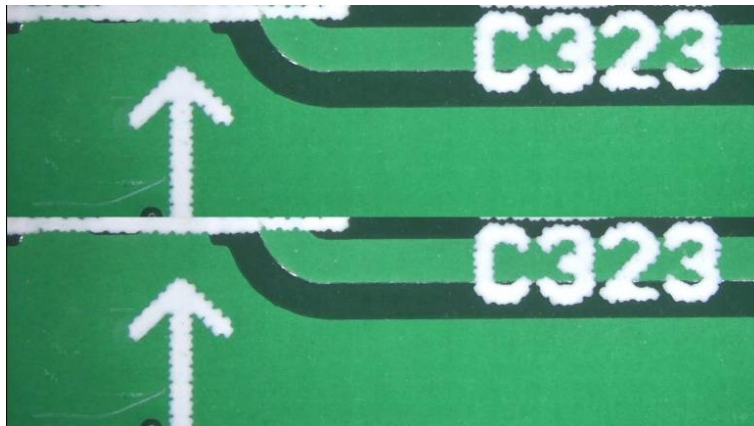

Fig 5-52 Top Side Compare mode
- Top Side Comparison : Enable/Disable the Top Side Compare mode. The loaded image is on Top side. Bottom side image is live preview image. Fig 5-52 Transparency: 100%, Image Location: 100%, Offset Ratio: 0%, Image Ratio: 50%.